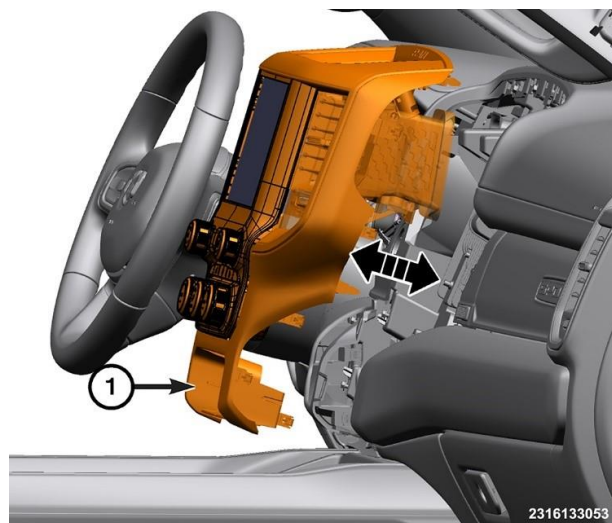

Figure 4 – IP Center Bezel
8. Firmly grasp the sides of the IP center bezel (1) by hand, disengage the retainer clips that secure the IP center bezel to the IP (Figure 4).
51. Install the instrument panel center bezel (1) to the instrument panel and fully engage the retainer clips (Figure 4).